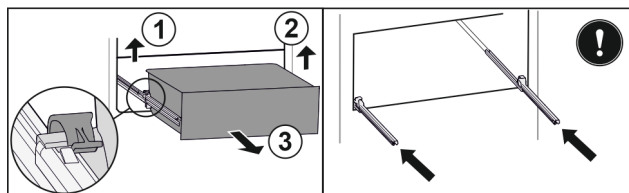

Fig. 113
- Lift left clamp and simultaneously pull drawer forwards on the left. Fig. 113 (1)
- Lift right clamp and simultaneously pull drawer forwards on the right. Fig. 113 (2)
- Remove drawer to the front. Fig. 113 (3)